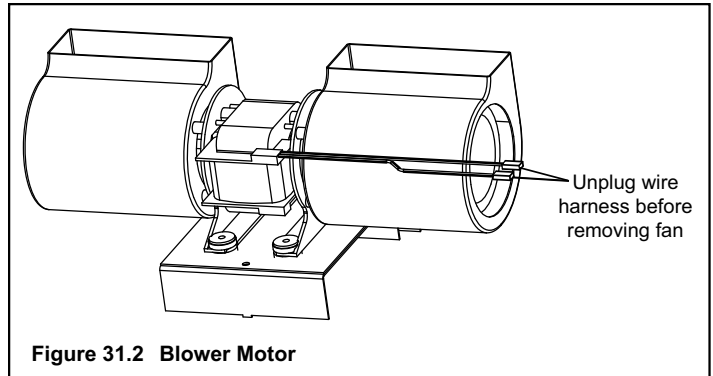

Figure 31.2 Blower Motor
2. Lift blower from locating pins and remove. Repeat for second blower if necessary. See Figure 31.2.